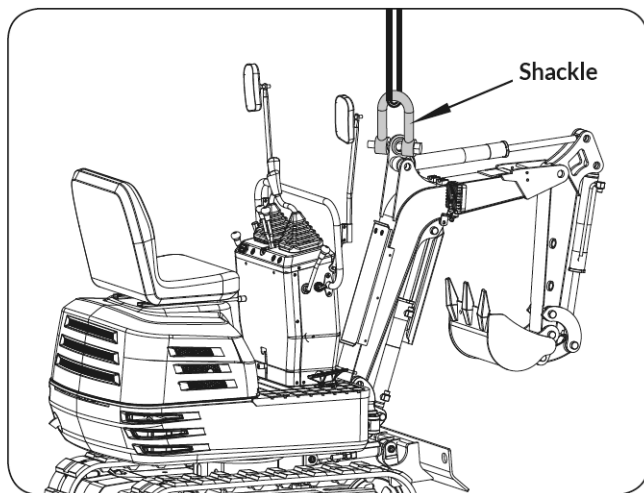

Figure 70
(1) Lift slowly and safely
(2) Do not enter the excavator area when lifting.
(3) Lift the excavator horizontally. (Modify connections according to needs) (See **Figure 70 & 71 & 72**)